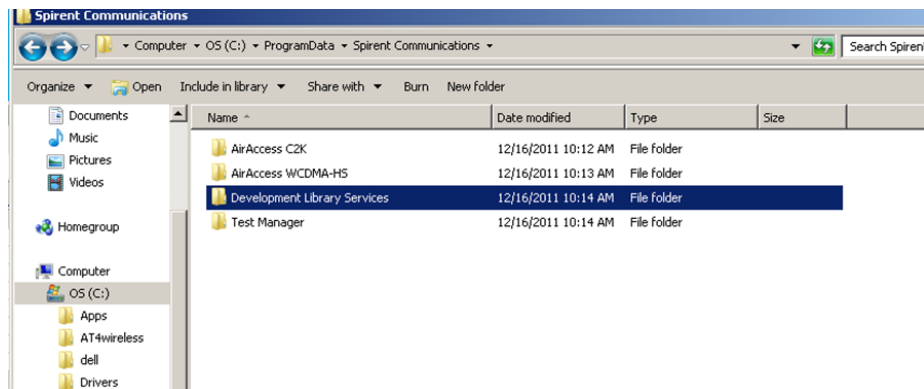

Figure 2-16: Spirent Communications Folder
1. Using Windows Explorer, navigate to the *C:\ProgramData\Spirent Communications* folder as shown in Figure 2-16.